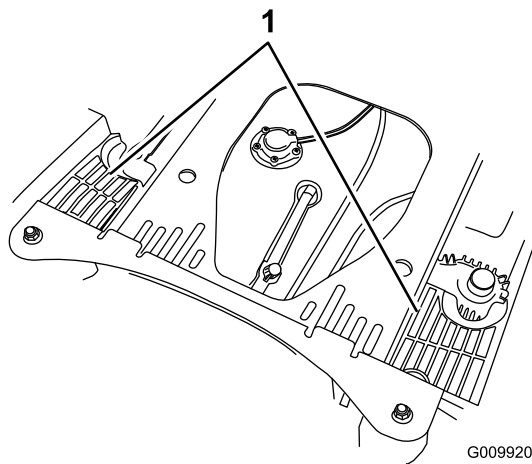

Figure 71
4. Clean the debris and grass from the hydraulic unit shrouds (Figure 71).